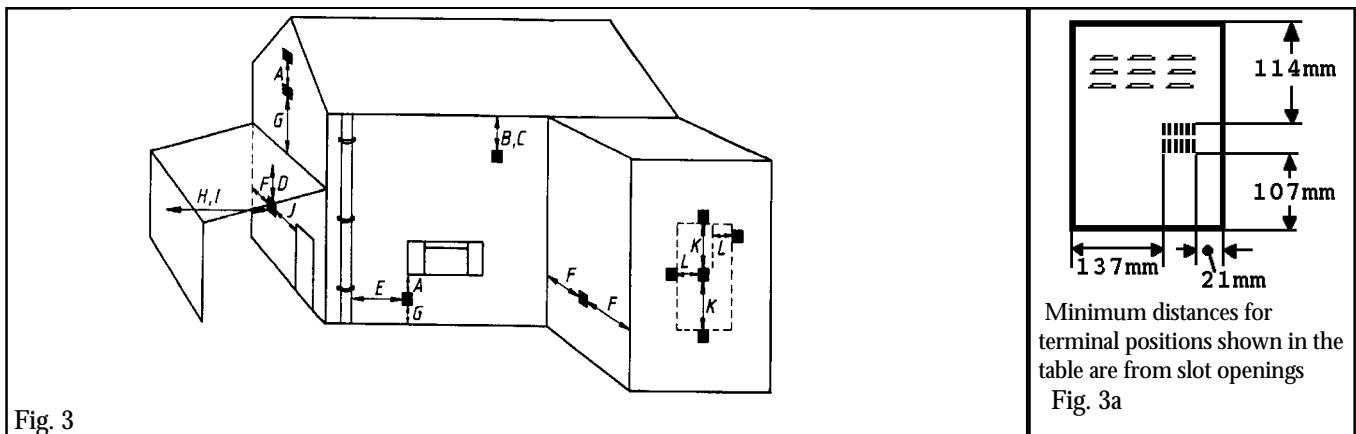

Fig. 3
2.19 The flue terminal should be located so that the wind can blow freely across it at all times and where any blockage due to leaves, snow, etc. is unlikely. The minimum allowable distances from the terminal are shown in the following table and figure 3. *Note: The distances are from the edge of the vertical exit slots in the terminal not from the edges of the rectangular box (See figure 3a).*